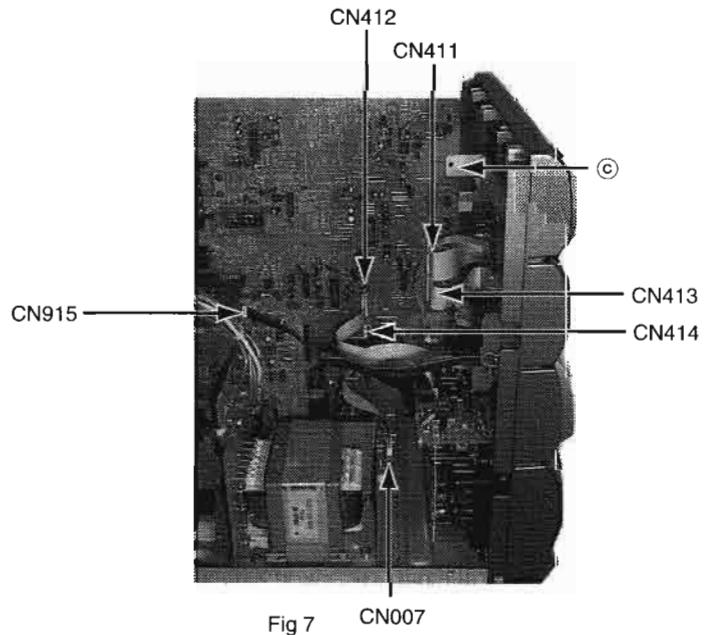
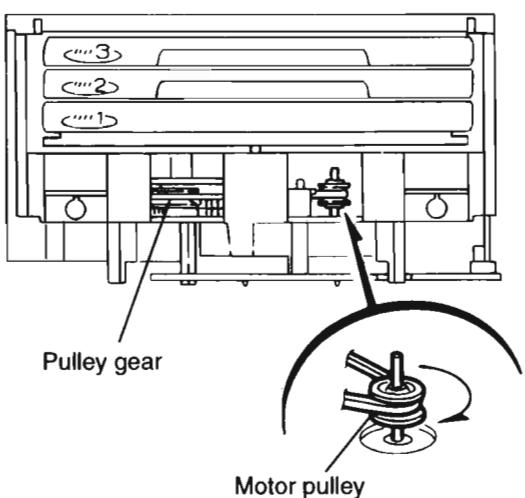

Fig 7 CN007
Fig.8
- [Caution]** In case the driver unit elevator is not at above position, set the elevator to the position as shown in Fig.7 by manually turning the pulley gear as shown in Fig.8.
13. Manually turn the motor pulley in the clockwise direction until the lifter unit stopper is lowered from the section "E" of CD tray assembly(See Fig.8).